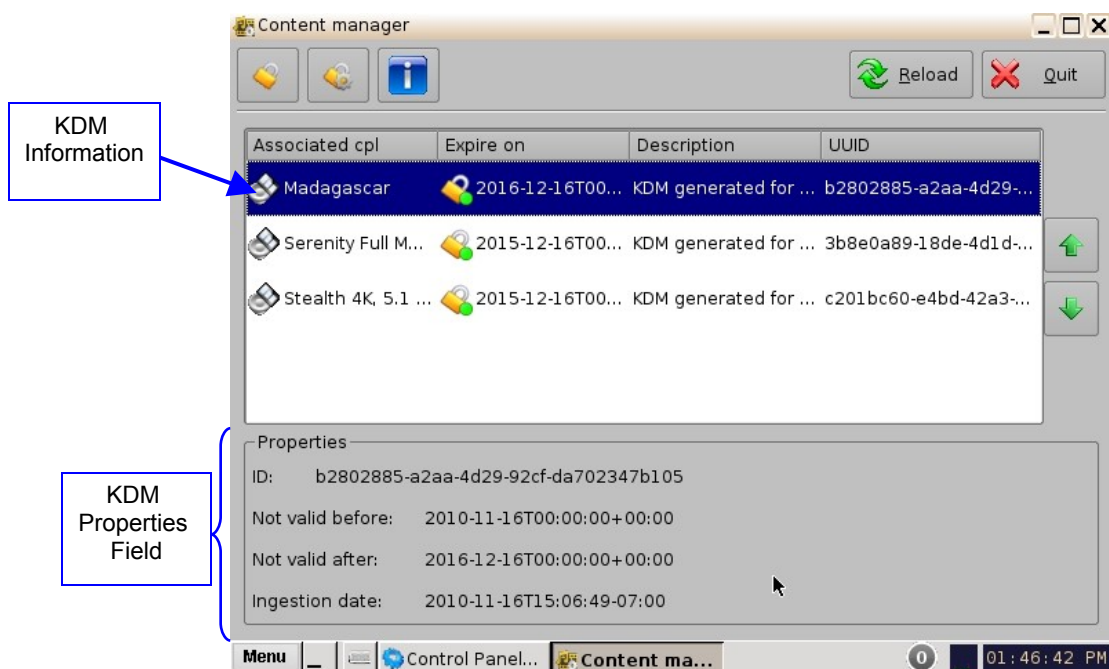

Figure 80: Decryption Keys Page: KDM Selected - Properties Shown
- To view the properties of any KDM, select it from the list and the information will be displayed in the bottom half of the window (Figure 80).